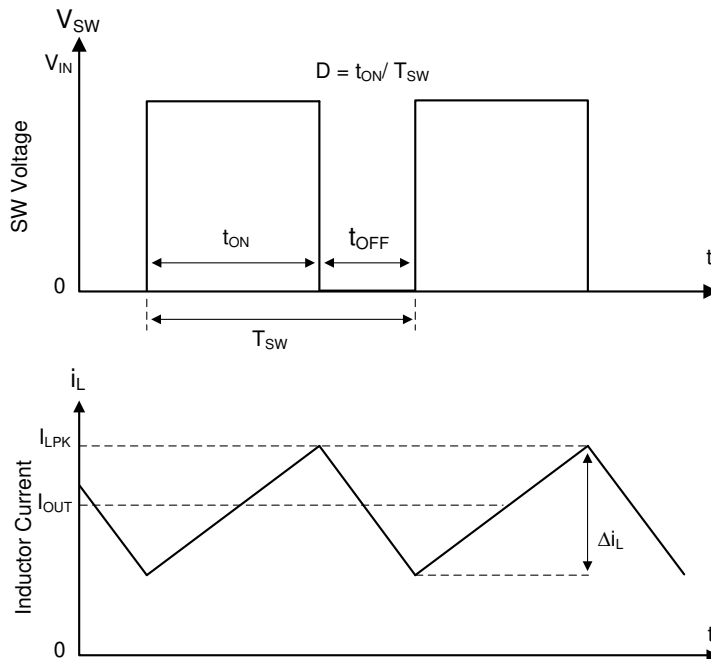

图 7-1. SW Node and Inductor Current Waveforms in Continuous Conduction Mode (CCM)
The following operating description of the LMR544xx refers to 节 7.2 and to the waveforms in 图 7-1. The LMR544xx is a step-down synchronous buck converter with integrated high-side (HS) and low-side (LS) switches (synchronous rectifier). The LMR544xx supplies a regulated output voltage by turning on the high-side and low-side NMOS switches with controlled duty cycle. During high-side switch ON time, the SW pin voltage swings up to approximately V_{IN} , and the inductor current, I_L , increases with a linear slope of $(V_{IN} - V_{OUT}) / L$. When the high-side switch is turned off by the control logic, the low-side switch is turned on after an anti-shoot-through dead time. Inductor current discharges through the low-side switch with a slope of $-V_{OUT} / L$. The control parameter of a buck converter is defined as Duty Cycle $D = t_{ON} / T_{SW}$, where t_{ON} is the high-side switch ON time and T_{SW} is the switching period. The converter control loop maintains a constant output voltage by adjusting the duty cycle D . In an ideal buck converter, where losses are ignored, D is proportional to the output voltage and inversely proportional to the input voltage: $D = V_{OUT} / V_{IN}$.